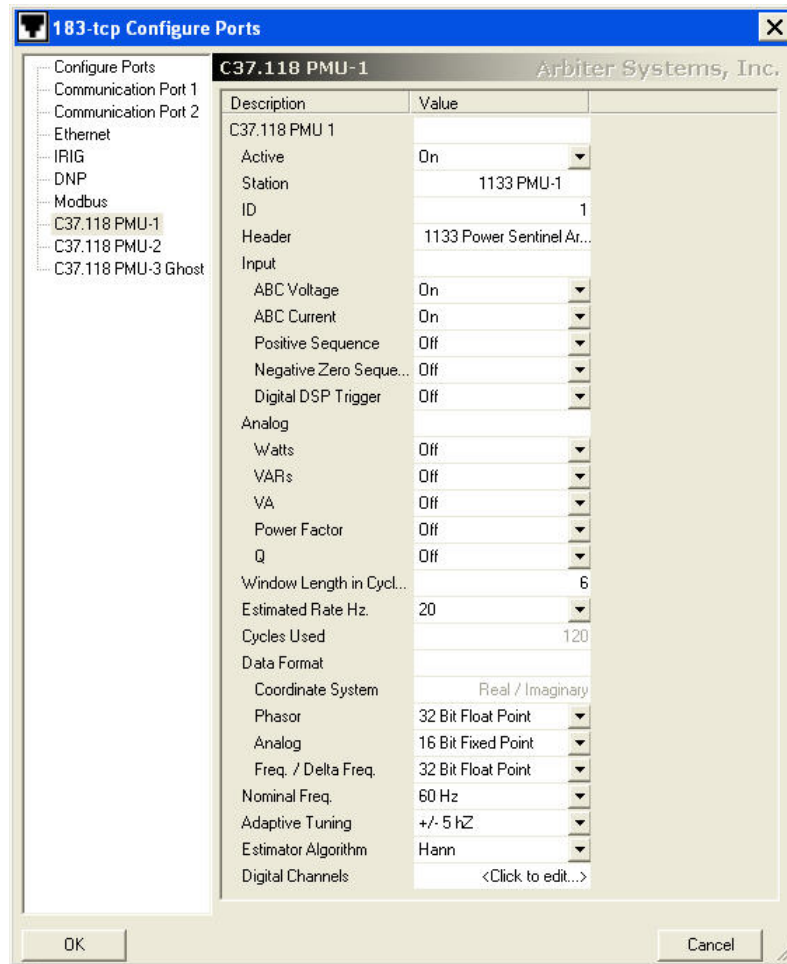

Figure 7.10: PMU-1 Configuration
The definitions for the terms found in the PMU-1 and PMU-2 setup window are shown in Figure 7.10. Open the window by selecting Connection > Configure > Communication Ports, or by clicking the Configure Ports button and selecting PMU-1 or PMU-2.
**Cycles Used** is a calculated value based on multiplying the Estimated Rate times the Window Length in cycles. Cycles used =  $20 \times 6 = 120$  in Figure 7.10. Cycles Used maximum values are determined by a maximum window length of 16 or less, depending on the value for Estimated Rate. Maximum cycles is 400 when combining PMU-1 and PMU-2.
The following example should illustrate how to set up the 1133A using PSCSV for specific synchrophasor data type, using the data found in Figure 7.10. Before actually setting up the synchrophasor window, make sure to first configure the Nominal Frequency on the form.
4. Figure 7.10 shows PMU-1 selected. Start configuring at the top.
12. “Cycles Used” (calculated by PSCSV) is a product of the “Estimated Rate” times the “Window Length”. Figure 7.10 this gives this value as follows:  $20 \times 6 = 120$ .
Using the Arbiter UDP mode, the 1133A transmits data at the following rates: (1) Waveform data: 20 times per second (2) Arbiter synchrophasor data: according to Estimated Rate in PMU-1 or PMU-2 setup (see Figure 7.10), (3) all the other data types: once per second. To start any of these broadcasts, you will need to open the window in Figure 7.14 (select Connection > Configure > UDP Broadcast or click the UDP Broadcast button), select the data item and click Apply or OK. To stop any UDP broadcast, you will need to open the UDP window, deselect the item and click Apply or OK.